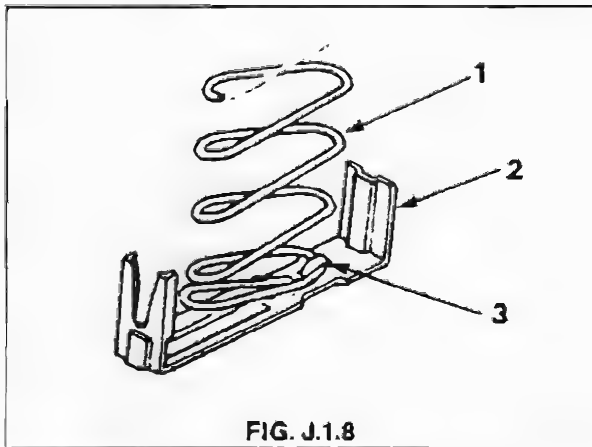

FIG. J.1.8
5. Remove the magazine follower from the spring by unlooping the spring through the retaining loop on the underside of the magazine follower. See Fig. J.1.8.